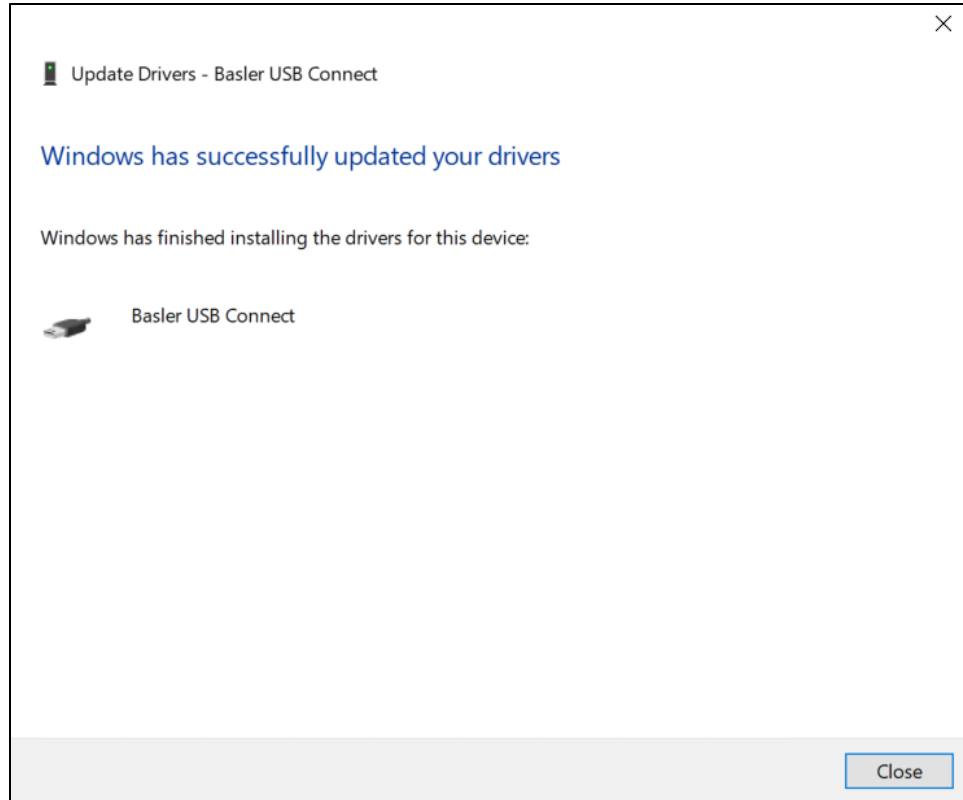

Figure 64-9. Driver Software Update Successful
Step 8. The window in Figure 64-9 appears if driver installation was successful.